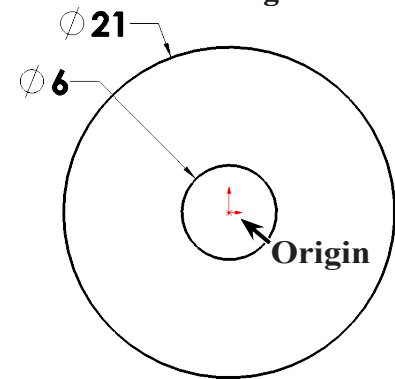

Fig. 2
Step 4. Sketch **two circles** at the Origin , **Fig. 2**.
Step 5. Click **Smart Dimension**  (S) on the Sketch toolbar.
Step 6. Dimension **diameters 21 and 6**, **Fig. 2**.